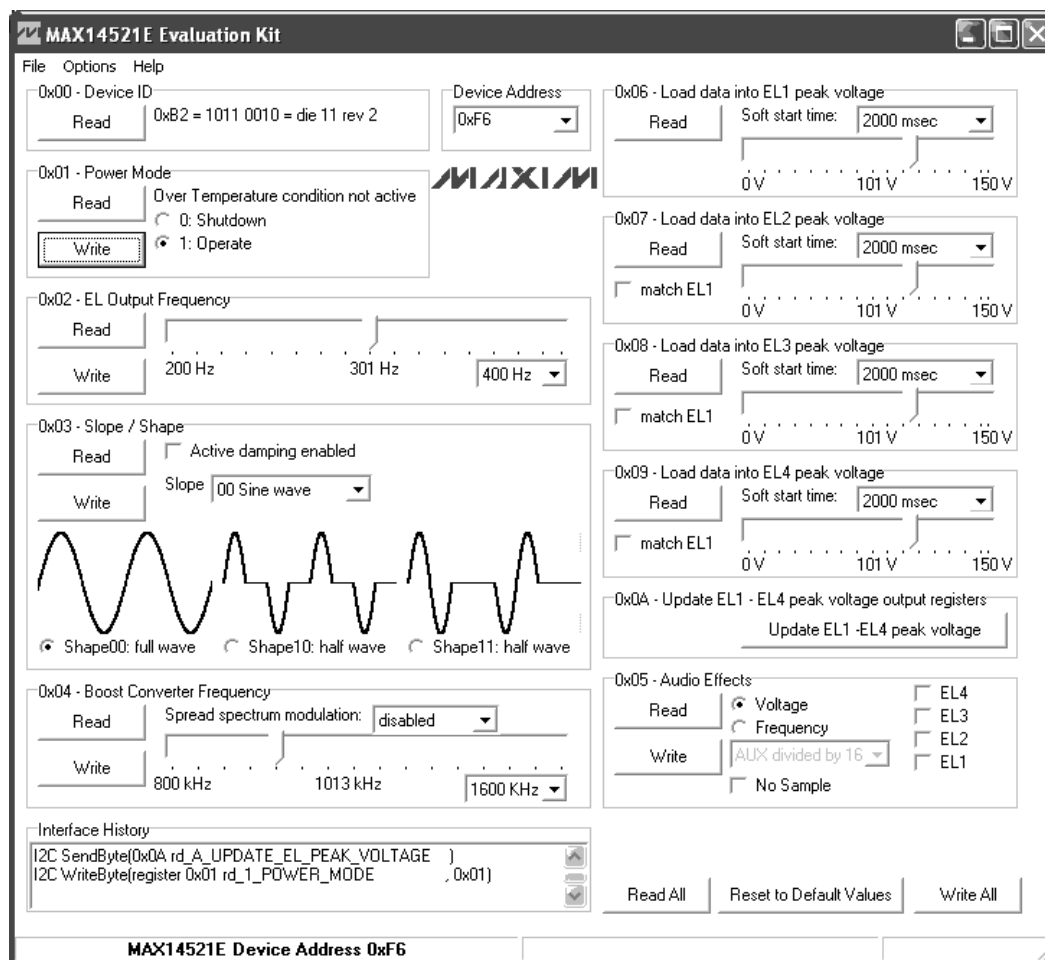

Figure 1. MAX14521E EV Kit Software Main Window
- 10) Start the MAX14521E EV kit software by opening its icon in the **Start | Programs** menu. The EV kit software main window appears, as shown in Figure 1.
The main window of the evaluation software (Figure 1) shows the MAX14521E device registers. Each individual register has its own **Read** and **Write** buttons. All registers are affected by the **Read All**, **Reset to Default Values**, and **Write All** buttons. Refer to the MAX14521E IC data sheet for detailed information about the device registers.